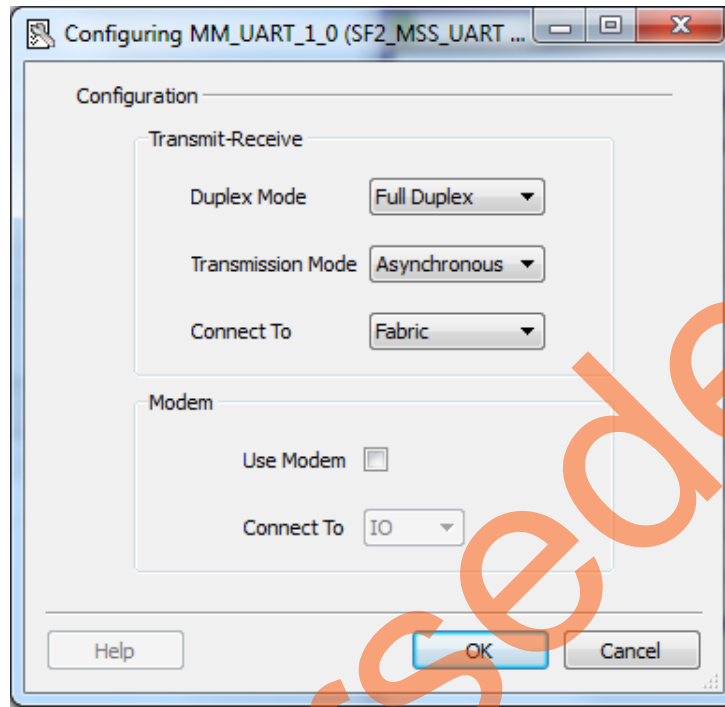

Figure 8 • MMUART_1 Configurator Window
9. Double-click **MMUART_1** and configure it as shown in Figure 8.